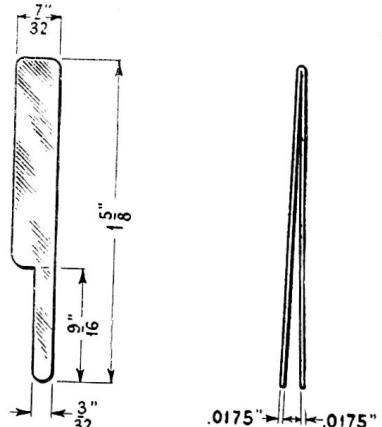

Figure 6—Magnetic pick-up armature spacing tool
- (a) Procure magnetic pick-up armature spacing tool. This is listed in the spare parts catalog, or it may be easily constructed by referring to Figure 6.